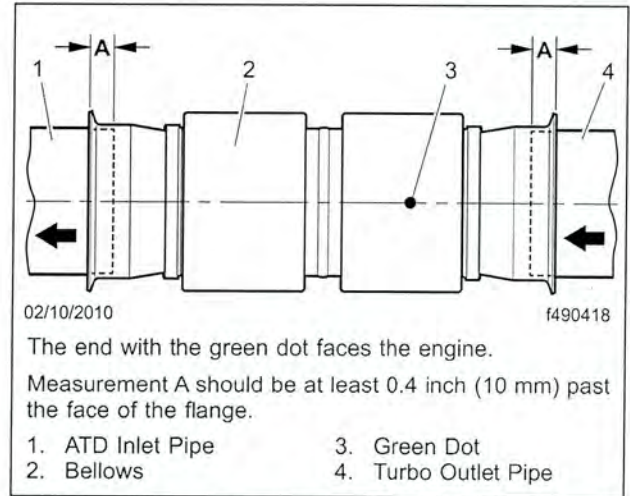

Fig. 5, EPA10 Exhaust Bellows
9. Slide the new bellows onto the ATD inlet pipe as far as it will go. See Fig. 5.
13. Using the yellow marks, center the bellows between the exhaust pipes. Verify that the pipe is inserted at least 7/16 inch (10 mm) past the face of the flange. See Fig. 5.